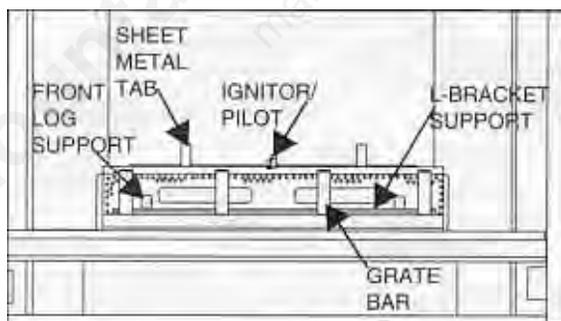
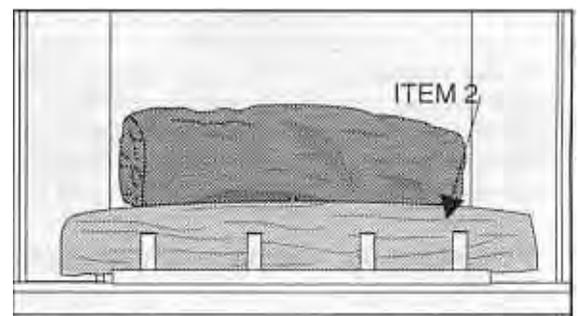

Figure 59
Figure 62
1. If Sheet Metal Tabs are in the upright position, as shown in **Figure 59**, bend them down. They should be flush with the Back Log Support.
Using a phillips screwdriver loosen and remove the left and right outermost screws on the "L" Bracket Support. Remove the (2) Front Log Supports, shown in **Figure 59**.
Also, install or make sure the four (4) Grate Bars are in their respective positions at the base of the Burner Pan Assembly. See **Figure 59**.
3. See **Figure 62**. Place the Front Log (**Item 2**) directly on the "L" Bracket Support. (See **Figures 59 & 61**.)